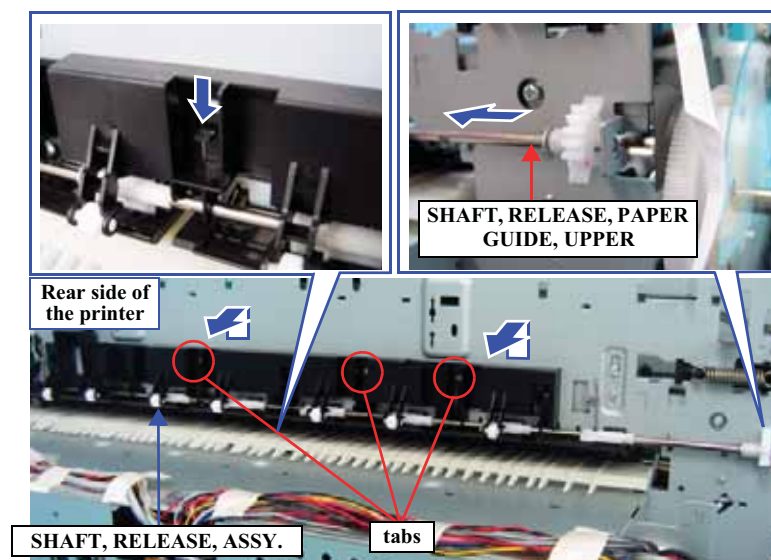

Figure 4-134. Removing the SHAFT, RELEASE, ASSY.
5. Lift up the SHAFT, RELEASE, ASSY. while pushing down the three tabs on the SHAFT, RELEASE ASSY. *See Figure 4-134.*
6. Slide the SHAFT, RELEASE, ASSY. leftward to release the SHAFT, RELEASE, PAPER GUIDE, UPPER from the main frame, and then remove the SHAFT, RELEASE, ASSY. *See Figure 4-134.*